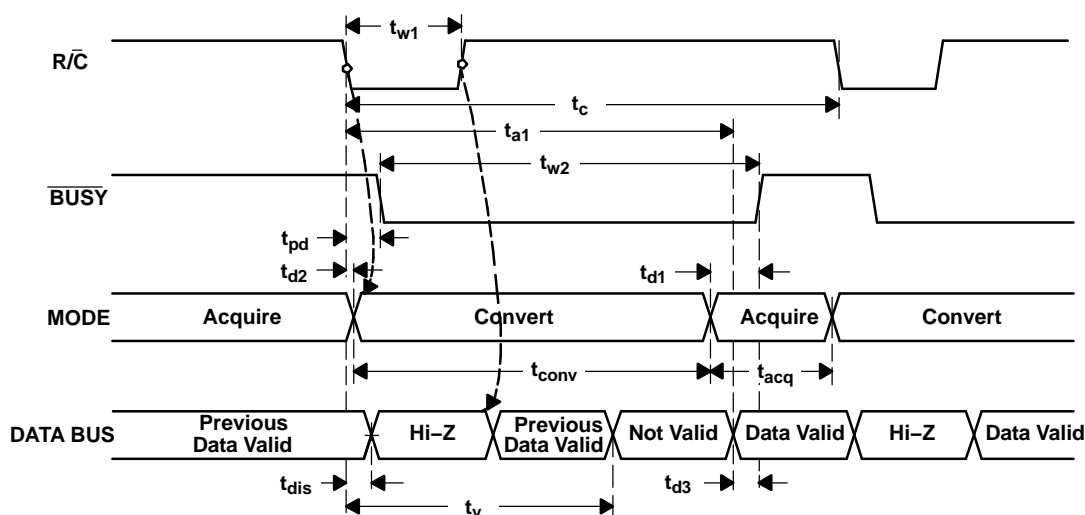

Figure 19. Conversion Timing with Outputs Enabled after Conversion (\overline{CS} Tied Low)
The ADS8504 begins tracking the input signal at the end of the conversion. Allowing 4 μ s between convert commands assures accurate acquisition of a new signal. Refer to Table 1 for a summary of \overline{CS} , $\overline{R/\overline{C}}$, and \overline{BUSY} states and Figure 19, Figure 20, and Figure 21 for the timing diagrams.
(1) See Figure 19 and Figure 20 for constraints on data valid from conversion $n-1$.
After conversion n is completed and the output registers have been updated, $\overline{\text{BUSY}}$ (pin 26) goes high. Valid data from conversion n is available on D11-D0 (pins 6-13 and 15-18). $\overline{\text{BUSY}}$ going high can be used to latch the data. Refer to Table 3 and Figure 19, Figure 20, and Figure 21 for timing specifications.
After conversion n has been initiated, valid data from conversion $n-1$ can be read and is valid up to t_2 (2.2 μs typ) after the start of conversion n . Do not attempt to read data from t_2 (2.2 μs typ) after the start of conversion n until $\overline{\text{BUSY}}$ (pin 26) goes high; this may result in reading invalid data. Refer to Table 3 and Figure 19, Figure 20, and Figure 21 for timing specifications.
The number of control lines can be reduced by tying $\overline{\text{CS}}$ low while using the falling edge of $\text{R}/\overline{\text{C}}$ to initiate conversions and the rising edge of $\text{R}/\overline{\text{C}}$ to activate the output mode of the converter. See Figure 19.